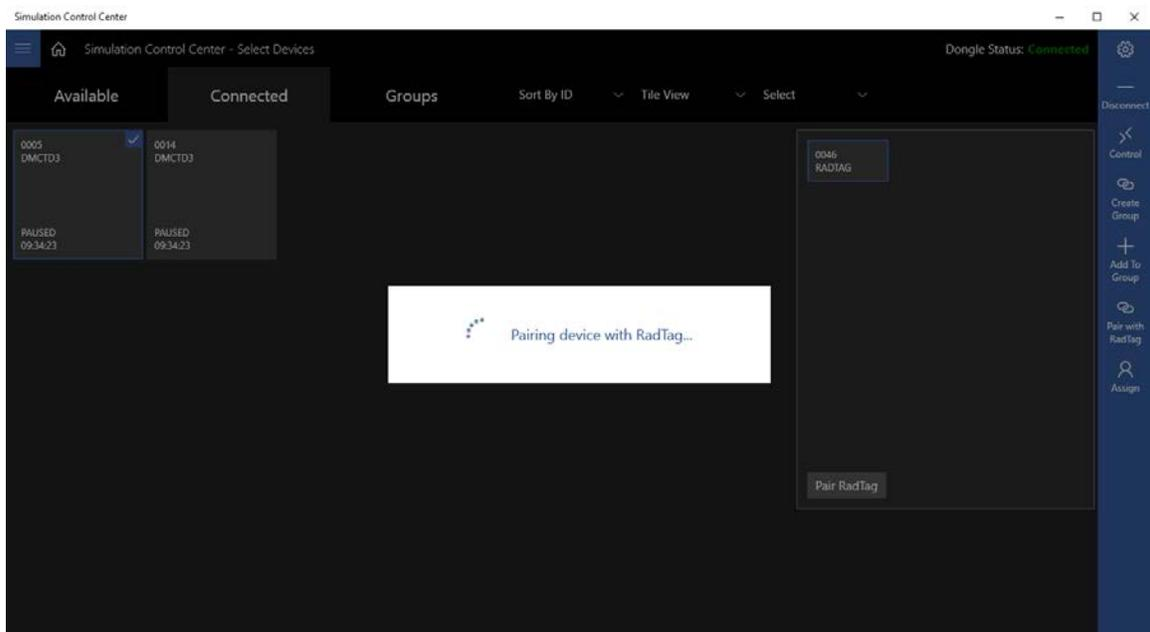

FIGURE 3 PAIRING WITH RAD TAG
8. A pop-up box appears with the words “Pairing Device with RadTag...” (see Figure 3)